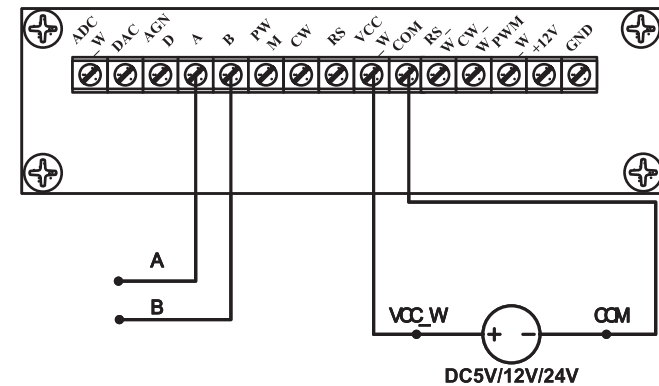
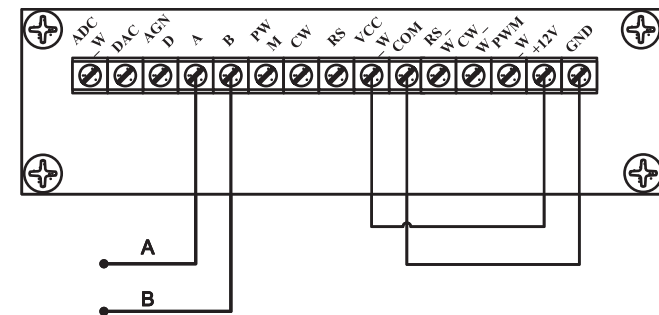

Figure 21 Communication External Power Supply Wiring Diagram
Figure 22 Communication Internal Power Supply Wiring Diagram
- With the power supply disconnected, refer to Figure 21 or Figure 22 for wiring. Then connect the DB15 interface to the back interface of the pump.